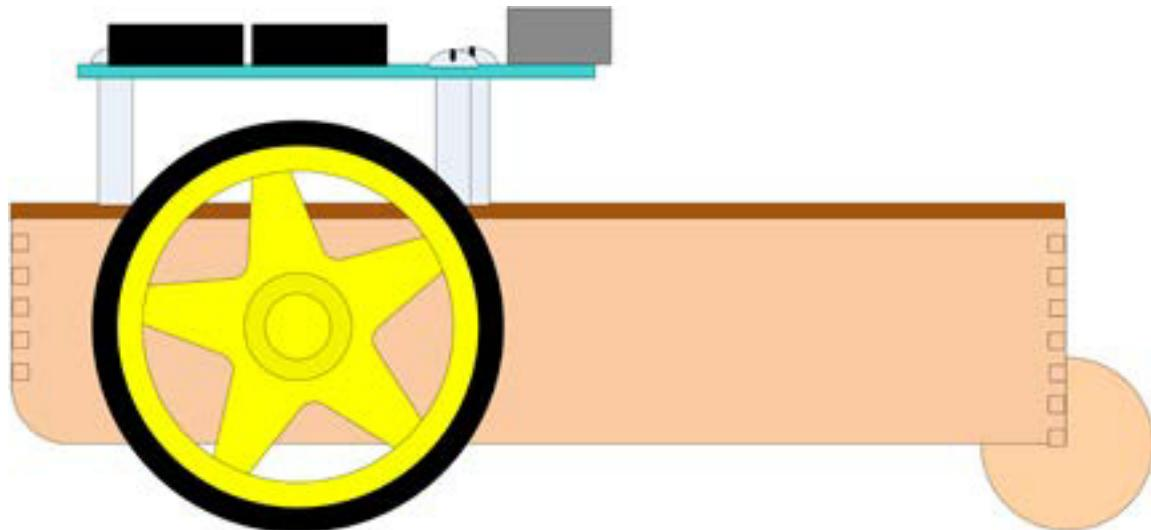

Figure 15-2. Assembled rolling robot chassis with Arduino™ attached
1. Assemble the robot chassis by following the instructions of "How To Assemble a Rolling Robot Chassis" found on LearnCSE.com. With the Arduino™ attached to the standoffs, the robot should look like Figure 15-2.